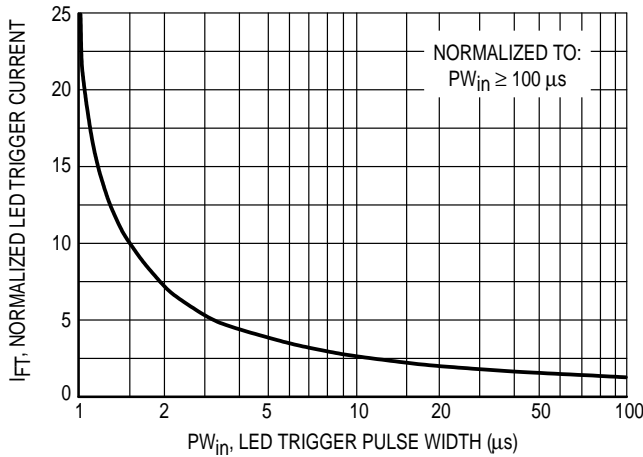

Figure 4. LED Current Required to Trigger versus LED Pulse Width
Random Phase Triac drivers are designed to be phase controllable. They may be triggered at any phase angle within the AC sine wave. Phase control may be accomplished by an AC line zero cross detector and a variable pulse delay generator which is synchronized to the zero cross detector. The same task can be accomplished by a microprocessor which is synchronized to the AC zero crossing. The phase controlled trigger current may be a very short pulse which saves energy delivered to the input LED. LED trigger pulse currents shorter than 100 µs must have an increased amplitude as shown on Figure 4. This graph shows the dependency of the trigger current IFT versus the pulse width t (PW). The reason for the IFT dependency on the pulse width can be seen on the chart delay t(d) versus the LED trigger current.